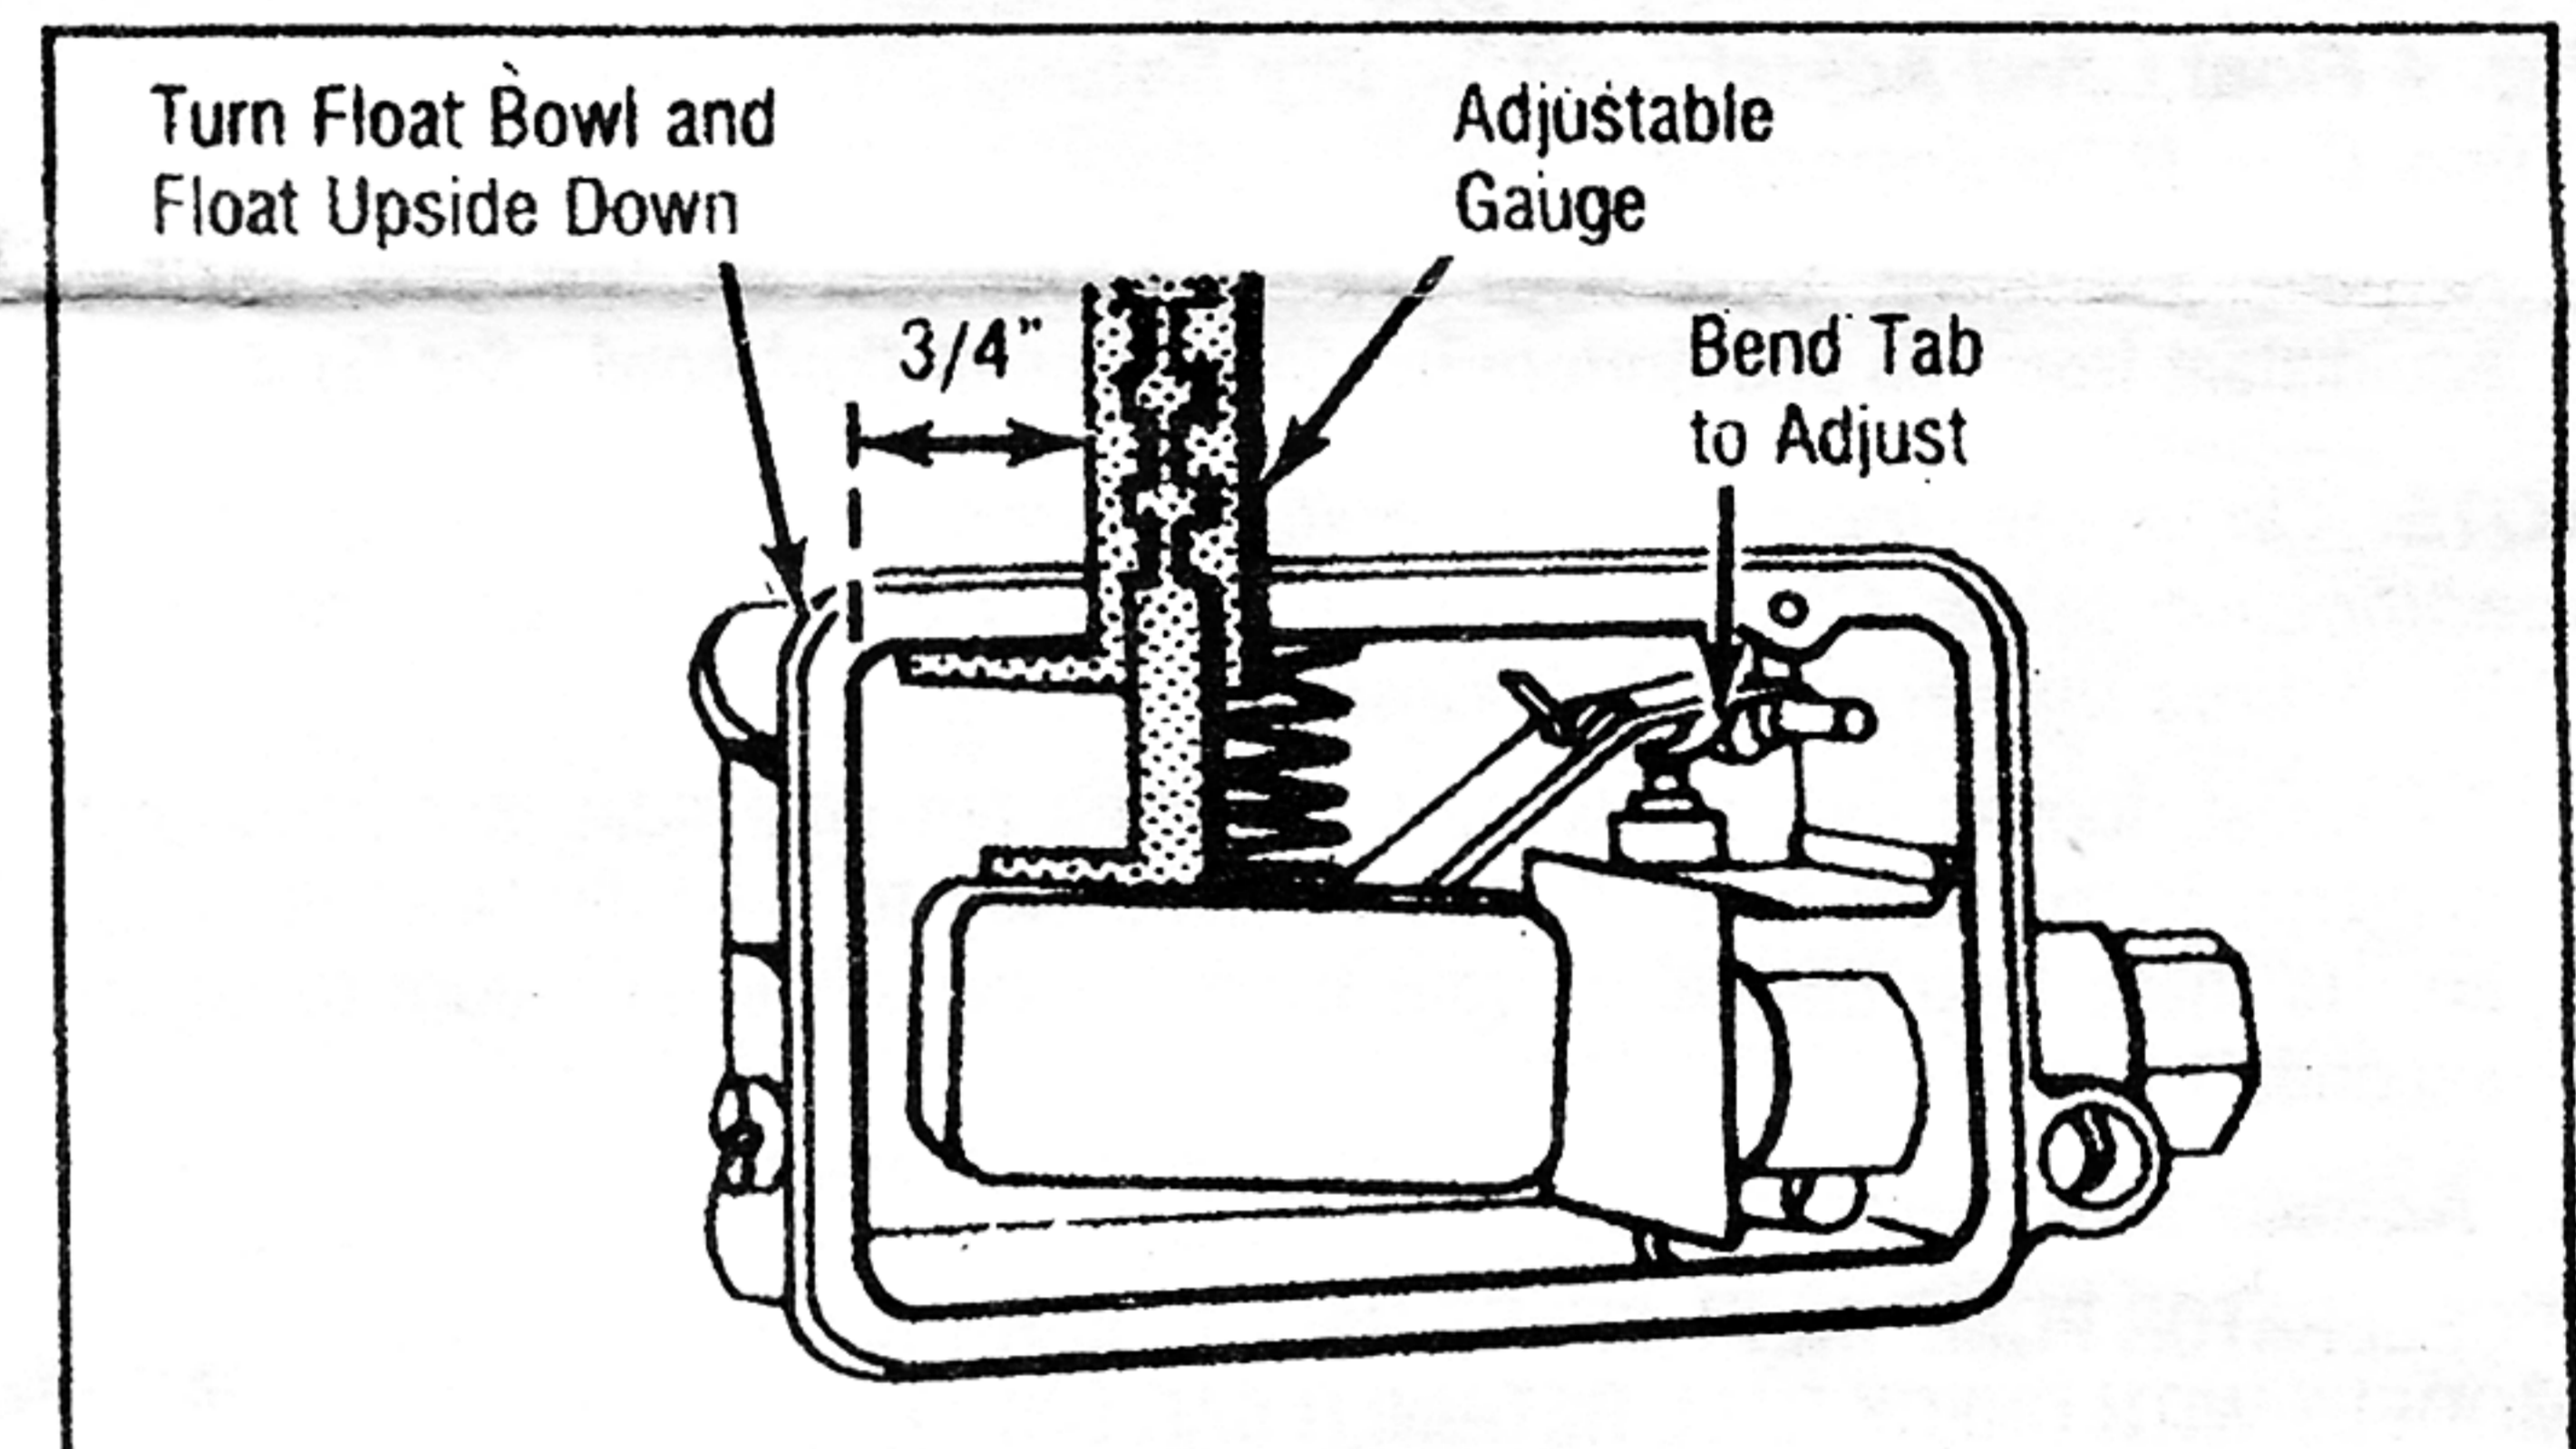

Fig. 2 Float Level Adjustment - Dry Setting (Type A - If Equipped)
1. Assemble gauge included in kit. Calibrate to scale "A". Remove float bowl and turn upside down, allowing float to close fuel inlet needle valve. See Fig. 2.